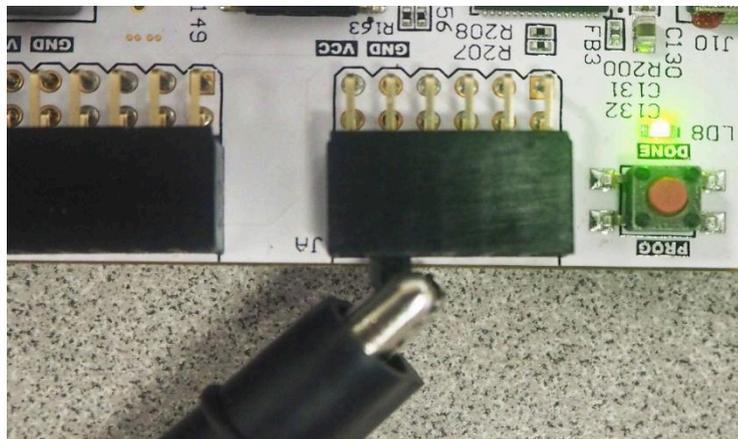

Figure 6: GND connection for your oscilloscope probe
9. Connect the Ground of the oscilloscope probe to any of the GND pins available on the board, as shown in Figure 6.